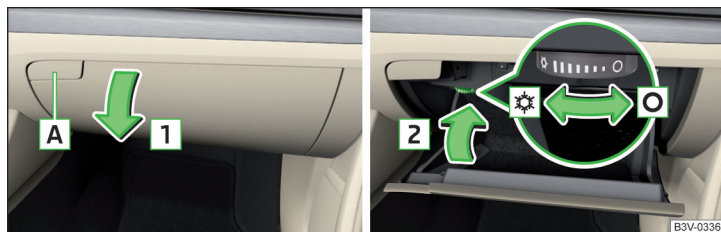

Fig. 117 Open storage compartment / close storage compartment and open air supply
- To **open**, press the -- button. The cover folds in the direction of arrow **1** » Fig. 117.
- To **open**, turn the rotary switch until it stops in the position ⚙ » Fig. 117.